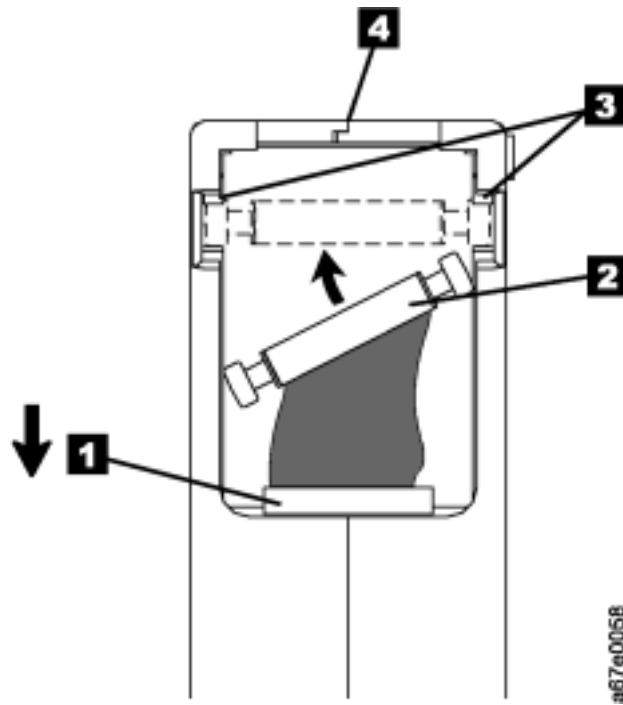

Figure 36. Placing the dislodged leader pin into the correct position
1. Slide open the cartridge door (**1** in Figure 36 on page 130) and locate the leader pin **2**. You may need to shake the cartridge gently to roll the pin toward the door.